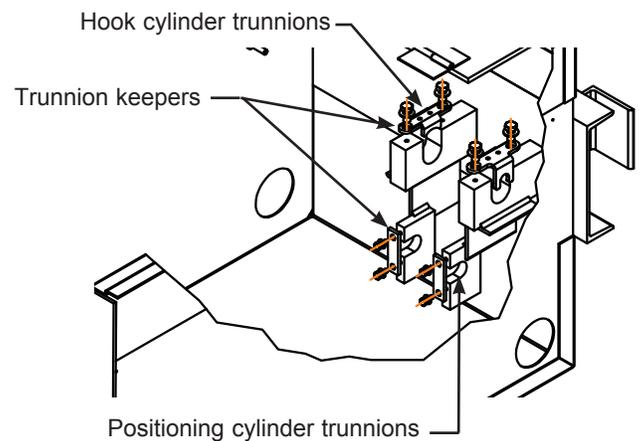

Figure 39
4. Remove the keepers from the positioning cylinder trunnion. See Figure 39.